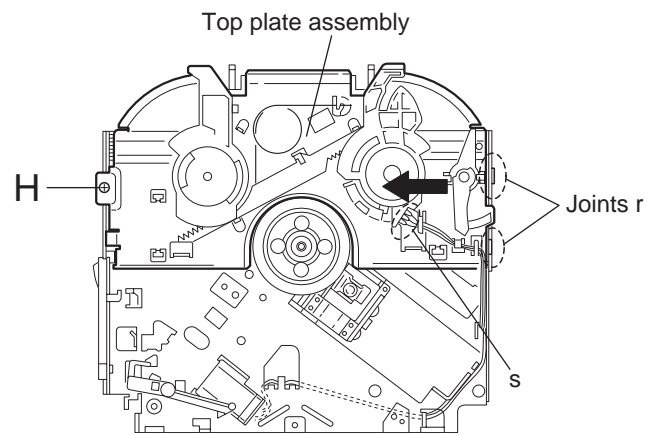

Fig.21
3.2.10 Removing the top plate assembly (See Fig.21)